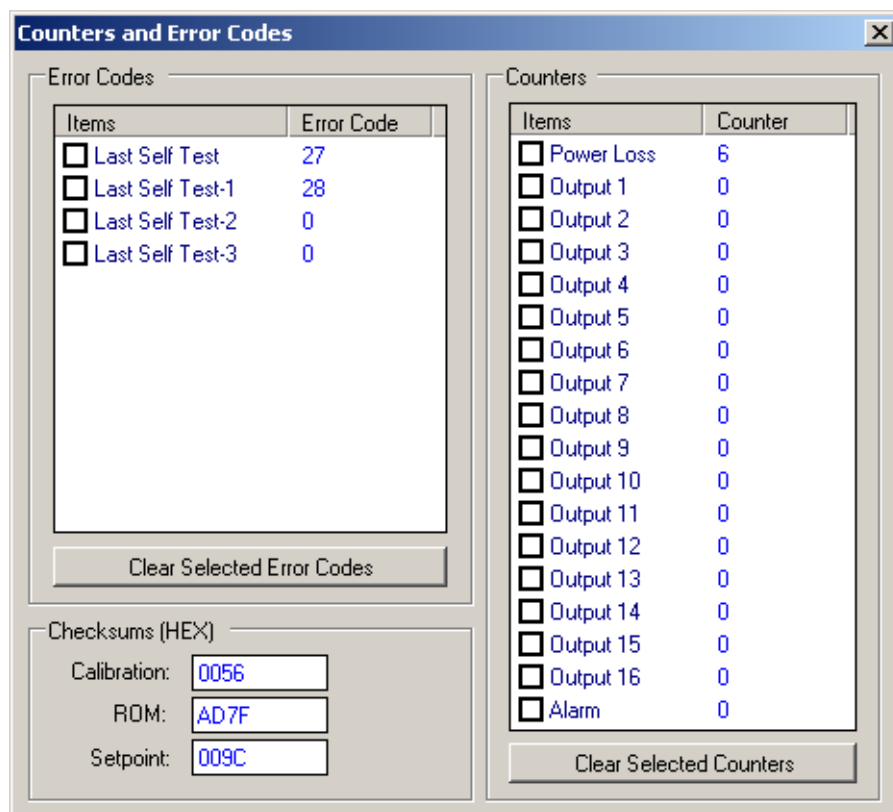

Figure 2-22 Counters and Error Codes Dialog Screen
1. From the IPScom Main Screen menu bar select **Tools/Counters and Error Codes**. IPScom will display the System Error Codes and Output Counters dialog screen (Figure 2-22).